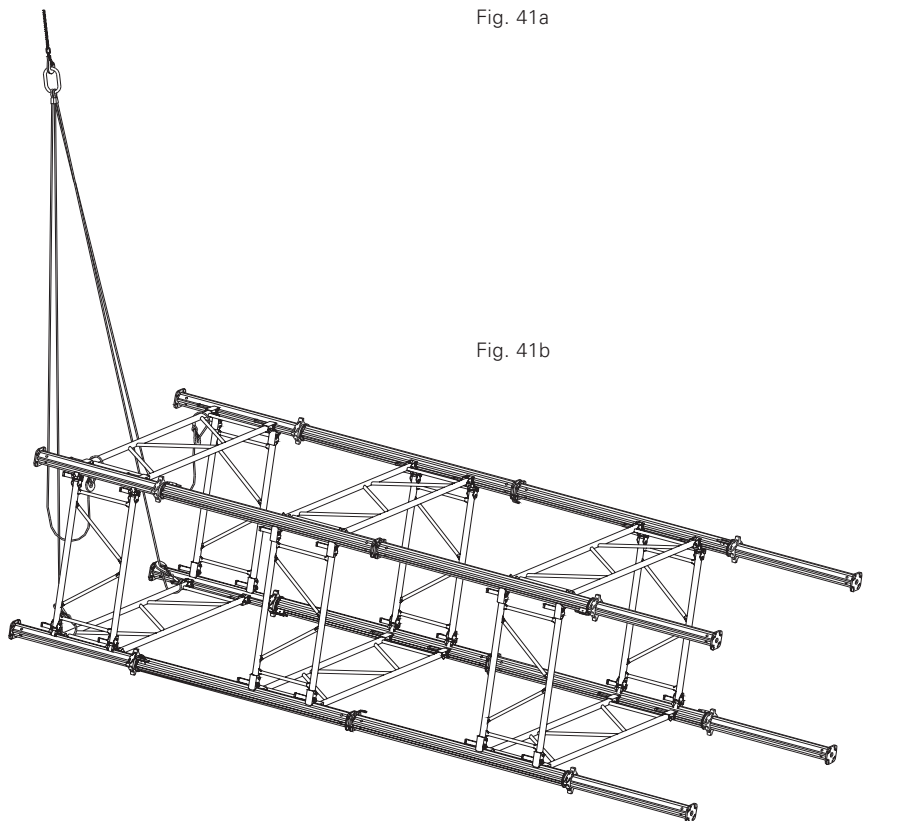

Fig. 41b
3. Dismantle the MULTIPROP tower. (Fig. 41b)